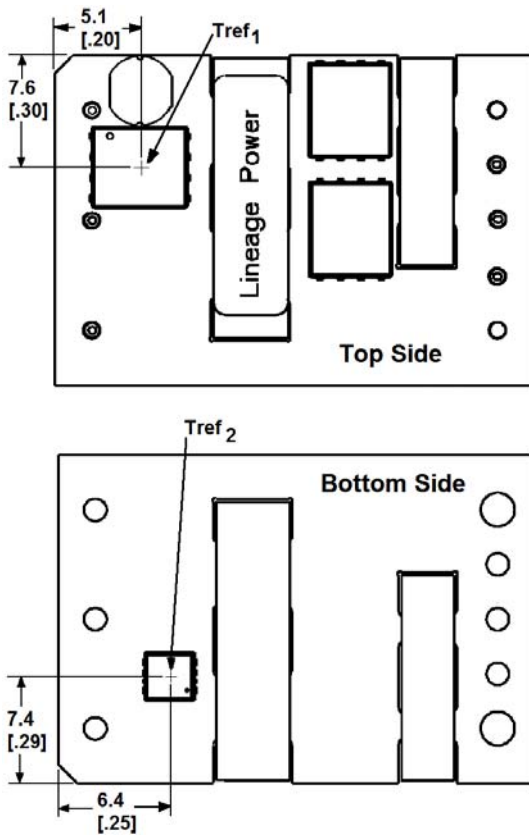

Figure 13. Tref_x Temperature Measurement Location.
To provide protection under certain fault conditions, the unit is equipped with a thermal shutdown circuit. The unit will shutdown if the thermal reference point T_{ref} (Figure 13), exceeds 128-133°C (typical) depending on T_A and airflow, but the thermal shutdown is not intended as a guarantee that the unit will survive temperatures beyond its rating. The module can be restarted by cycling the dc input power for at least one second or by toggling the remote on/off signal for at least one second. If the auto-restart option (4) is ordered, the module will automatically restart upon cool-down to a safe temperature.
The thermal reference points, $T_{ref,x}$, used in the specifications are shown in Figure 13. For reliable operation, the temperature of both T_{ref} points should not exceed 125°C.